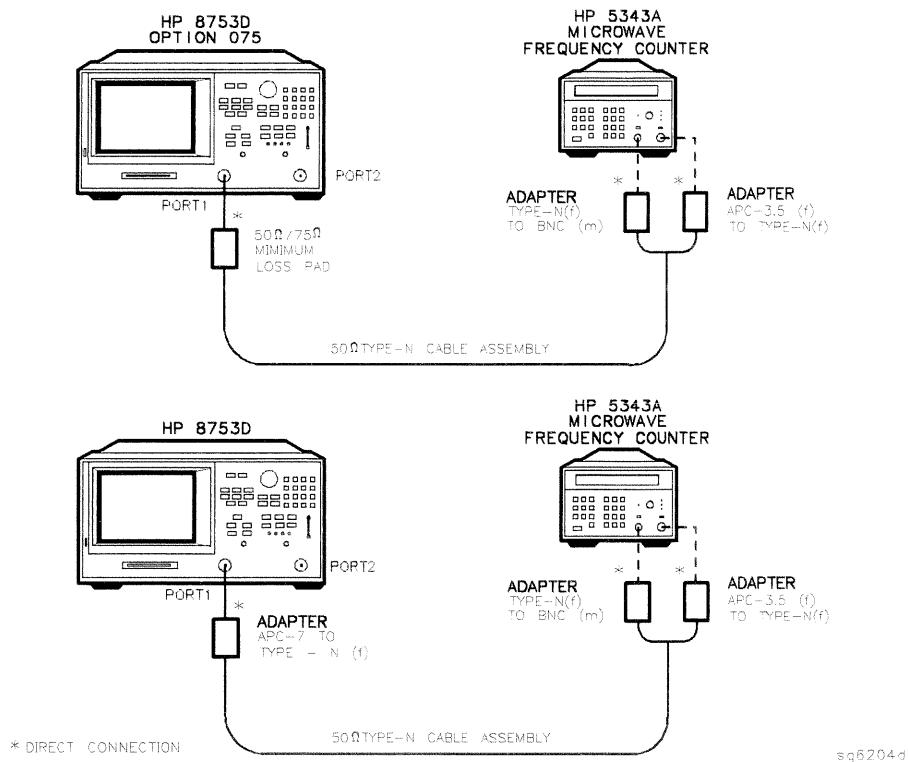

Figure 2-14. Test Port Output Frequency Range and Accuracy Test Setup
1. Connect the equipment as shown in Figure 2-14.